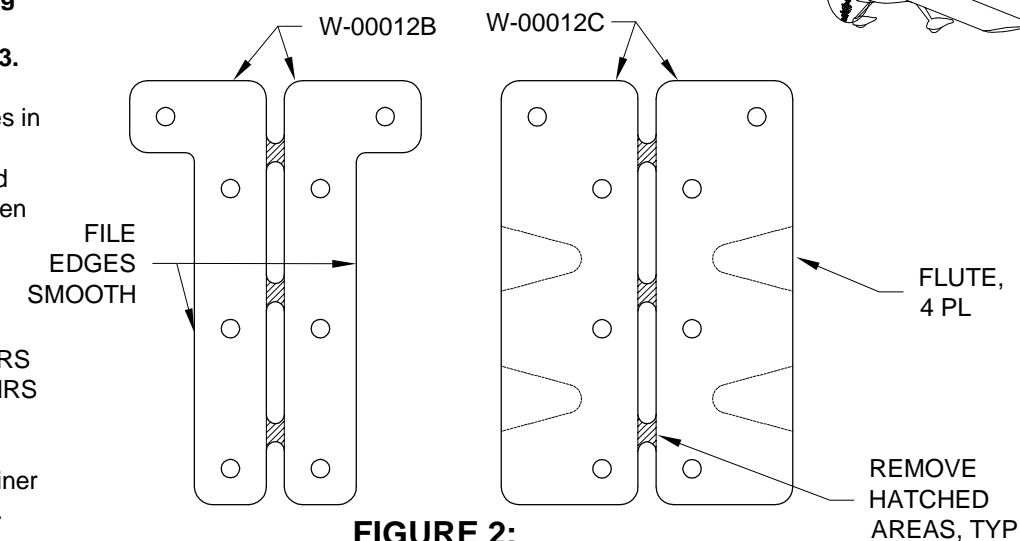

FIGURE 2:
Step 8: Dimple all the #19 and #40 holes in the W-00004-L & -R Bottom Inbd Wing Skins and W-1005-L & -R Bottom Outbd Wing Skins. Start with the #19 holes, then dimple the #40 holes. See Page 20-05, Figure 2 and Figure 3.
Step 9: Cut apart the W-00012B ADAHRS Mounting Spacer and W-00012C ADAHRS Retainer as shown in Figure 2.
Flute the edges of the W-00012C ADAHRS Retainer as shown in Figure 2.
Step 10: File the edges of the W-00012B ADAHRS Mounting Spacer as called-out in Figure 2. File until all shearing marks are removed.
Step 11: Dimple the holes in the W-00012A ADAHRS Mounting Plate and W-00012E ADAHRS Mounting Zee, See Figure 3 and Page 20-05, Figure 2.